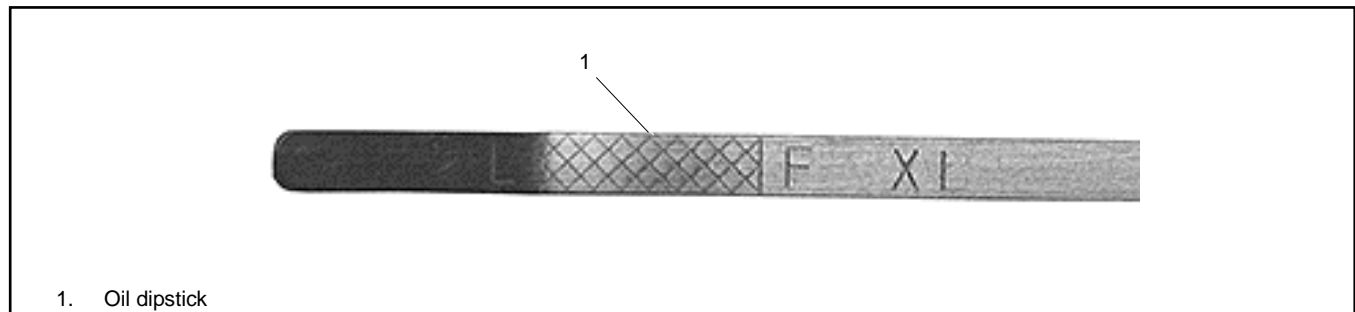

Figure 31 Oil Dipstick
10. Check engine oil level, making sure that the level lies between the L and F marks on the dipstick. See Figure 31.